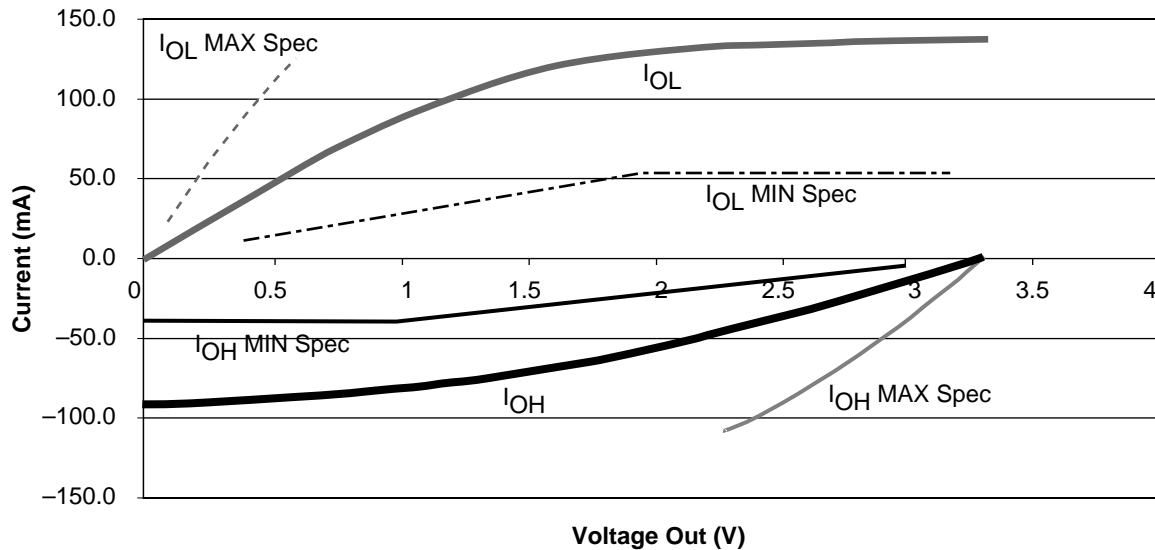

Figure 12 • 3.3V PCI Curve for HiRel SX-A Family
Figure 12 shows the 3.3V PCI V/I curve and the minimum and maximum PCI drive characteristics of the HiRel SX-A family.
1. Refer to the V/I curves in Figure 12 on page 16. Switching current characteristics for REQ# and GNT# are permitted to be one half of that specified here; i.e., half size output drivers may be used on these signals. This specification does not apply to CLK and RST#, which are system outputs. “Switching Current High” specifications are not relevant to SERR#, INTA#, INTB#, INTC#, and INTD#, which are open drain outputs.
2. Maximum current requirements must be met as drivers pull beyond the last step voltage. Equations defining these maximums (C and D) are provided with the respective diagrams in Figure 12 on page 16. The equation defined maximum should be met by the design. In order to facilitate component testing, a maximum current test point is defined for each side of the output driver.